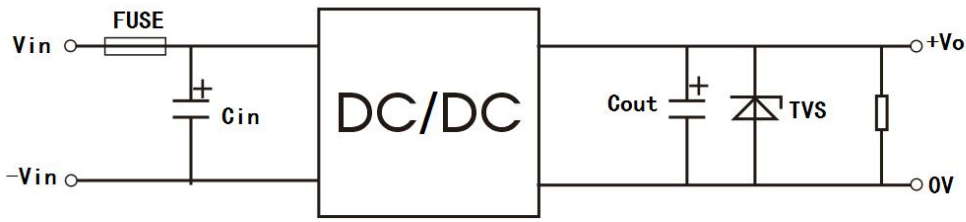

Fig.3
- (1) During product testing and application, please follow the recommended test circuit (Figure 3); At least one electrolytic capacitor  $C_{in}$  ( $\geq 470\mu F$ ) is guaranteed to be connected externally to suppress the possible input surge voltage;
- (2) If the input terminal of the product is connected in parallel with a circuit with large transient energy (such as a parallel motor drive circuit), the input voltage of the product may be pulled down. At this time, pay attention to the fluctuation of the input voltage of the product, and it is recommended to appropriately increase the capacitance of the electrolytic capacitor  $C_{in}$  at the input terminal to ensure the stability of the input terminal voltage and avoid the situation where the input voltage is lower than the under-voltage protection point and cause the product to restart repeatedly;
- (3) If the output end of the product is inductive load (such as relay and motor), it is recommended to increase the output capacitance  $C_{out}$  capacitance within the capacitive load specification and add TVS tubes to filter out voltage spikes;
- (4) If the input and output ripple needs to be further reduced,  $C_{in}$  and  $C_{out}$  capacity of external capacitors can be appropriately increased or external capacitors with small series equivalent impedance can be selected.  $C_{out}$  capacity of external capacitors cannot be greater than the maximum capacitive load of products.
- (5) When ctrl is used, it can be directly connected to  $-V_{in}$  Pin to achieve output enable control.